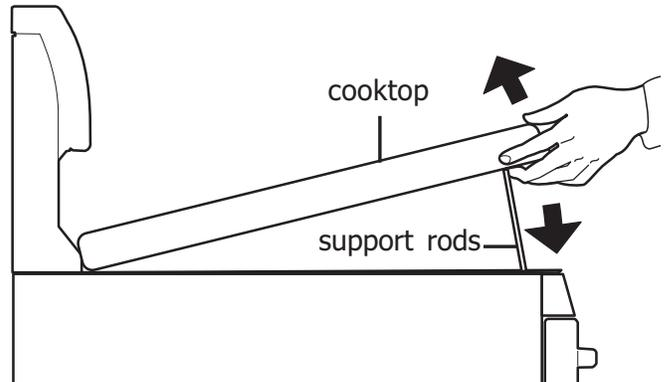

Figure 15: Lifting cooktop
1. Grasp the sides and lift from the front (See Figure 15). Lift-up rods will support the top in a raised position. Only lift the cook top far enough to allow the support rods to snap into place.